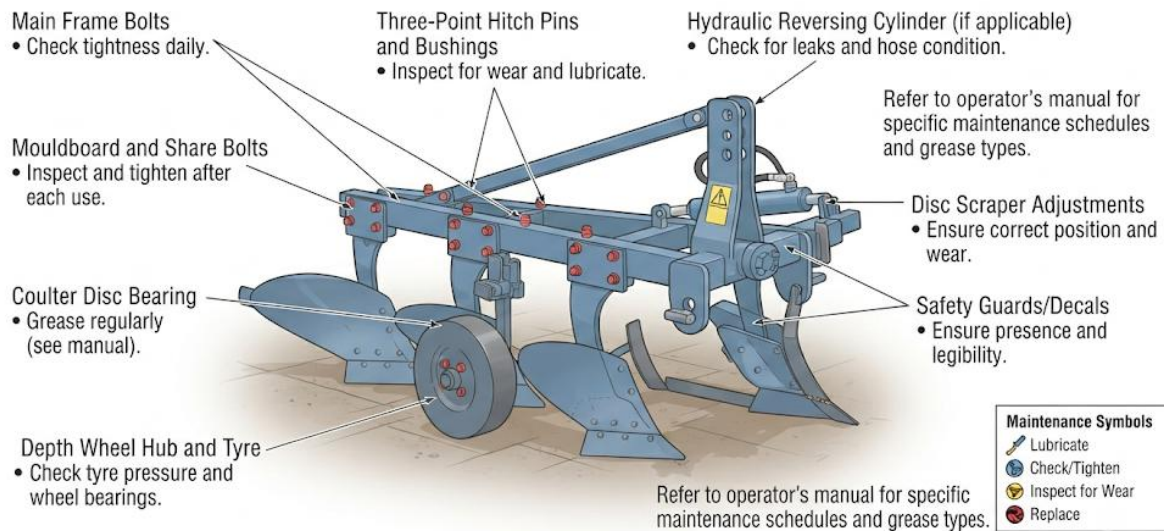

Figure 2.3 Routine maintenance points on a plough
Diagram showing routine maintenance points on a plough Caption: Figure 2.3 Routine maintenance points on a plough
- Figure 2.3 Routine maintenance points: “farm implement maintenance diagram OER”